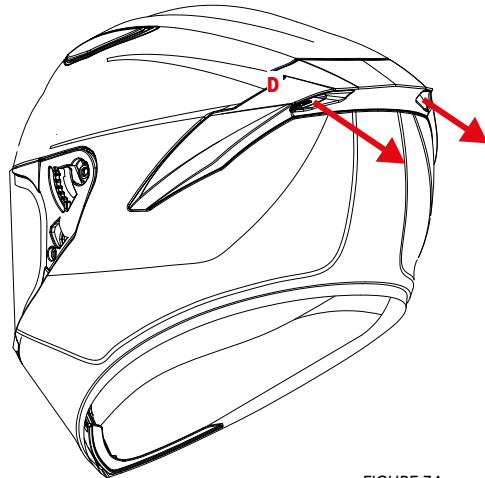

FIGURE 7A
**REAR AIR VENTS – D – Figure 7A**